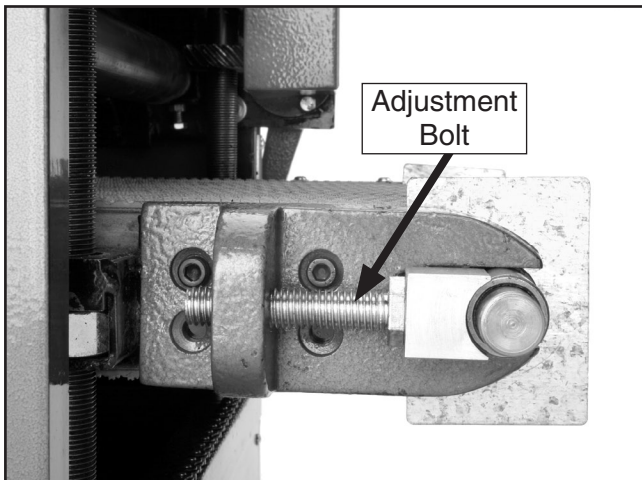

Figure 27. One side of conveyor tensioning & tracking controls (guard removed for clarity).
1. Use a magic marker, correction fluid, or fingernail polish to mark the front of the conveyor tensioning bolt on both sides (**Figure 27**). This step will aid you in keeping track of the rotations as you turn the bolts, so they remain as even as possible.